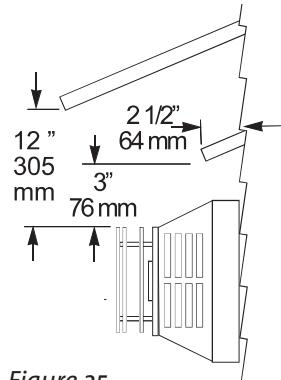

Figure 25.
- The horizontal termination cap must maintain a 3" clearance to any overhead combustible projections 2 1/2" or less. It must also maintain 12" clearance from projections exceeding 2 1/2". See fig. 25.